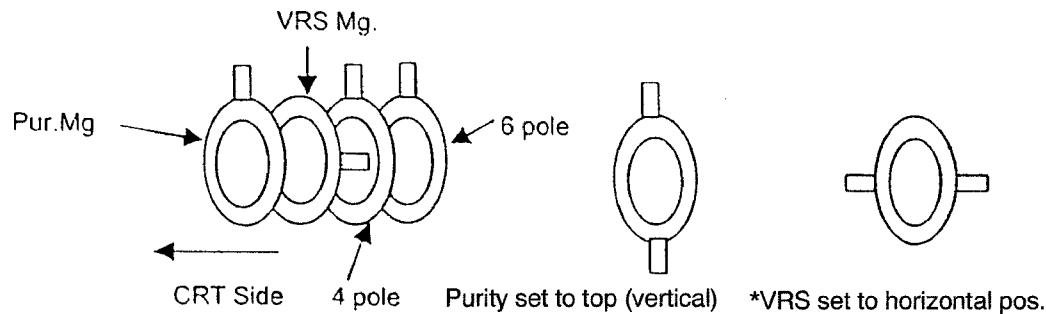

FIG. 1.
- b. Set CY to CRT and set CY magnet primarily (Fig. 1)